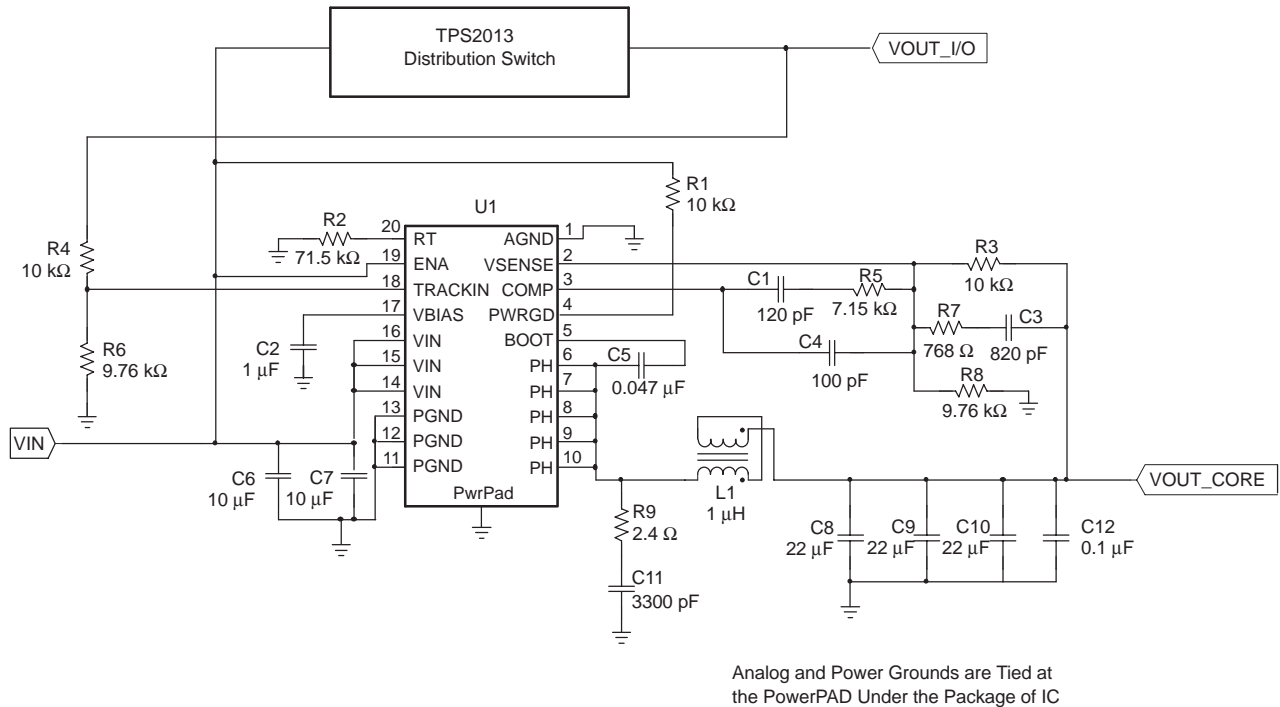

Figure 9. Application Circuit
(1) Specified by design
(2) Static resistive loads only
(3) Specified by the circuit used in Figure 9
(4) Matched MOSFETs low-side r_{DS(on)} production tested, high-side r_{DS(on)} specified by design
Figure 9 shows the schematic diagram for a typical TPS54380 application. The TPS54380 (U1) can provide greater than 3 A of output current at a nominal output voltage of 1.8 V. For proper thermal performance, the exposed thermal PowerPAD underneath the integrated circuit package must be soldered to the printed-circuit